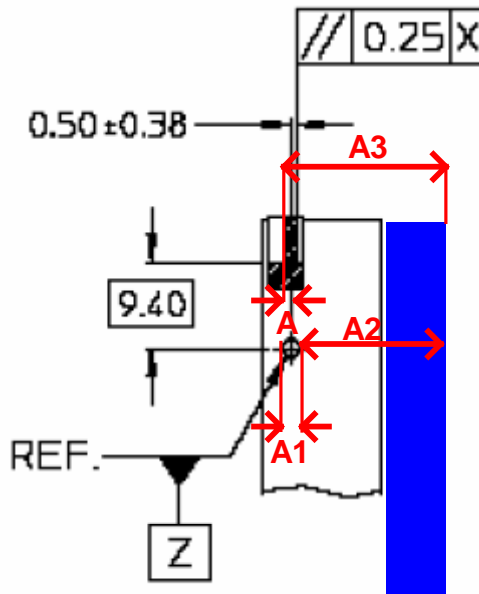

Figure 14
1. Using the inside measurement jaws on the calipers, measure the width of the mounting hole as shown in Figure 14. Record this value as  $A1$ .
3. Using the outside measurement jaws of the calipers, measure the distance from the edge of the mounting hole to the face of the flat surface, as shown in Figure 14. Record this value as  $A2$ .
5. Using the outside measurement jaws of the calipers, measure the distance from the top of the device tongue, to the face of the flat surface as shown in Figure 14. Record this value as  $A3$ .